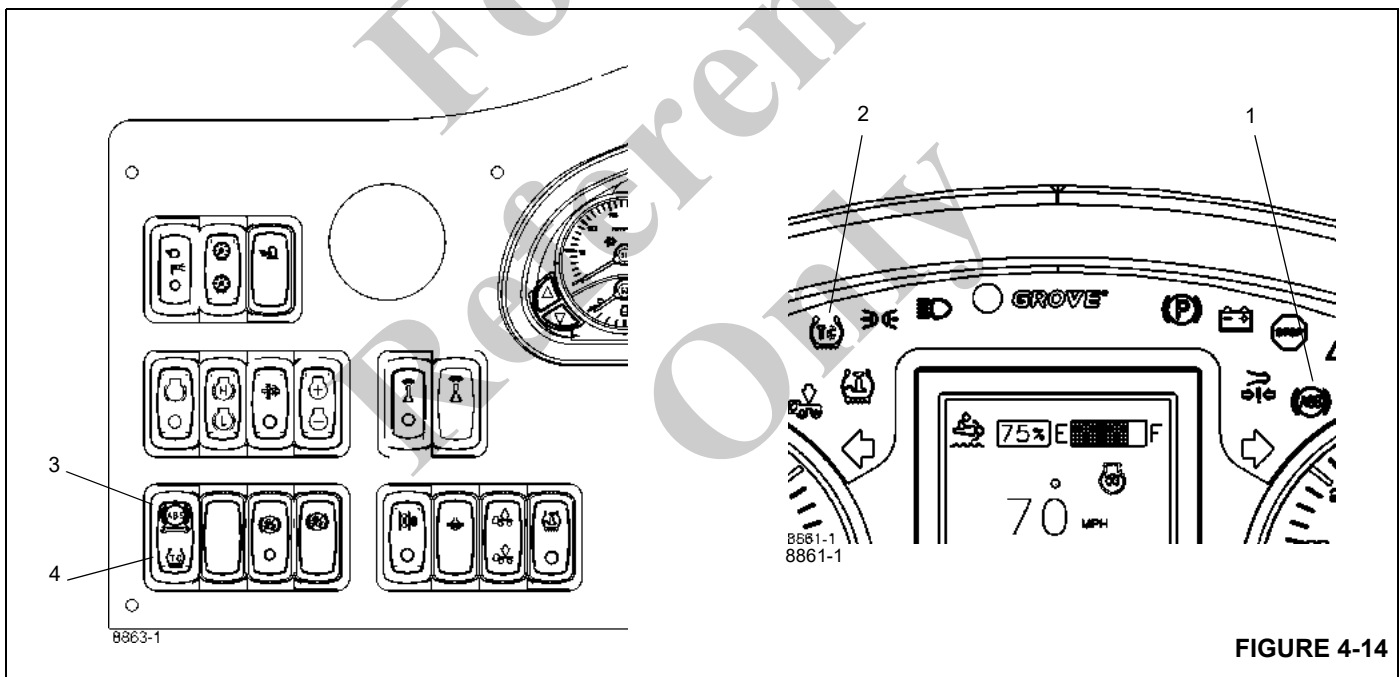

FIGURE 4-14
When ignition power is applied, the ECU will illuminate the ABS indicator lamp (1), (Figure 4-14) for approximately three seconds, after which the lamp will extinguish if no diagnostic trouble codes are detected.
The ABS/Traction Control switch (3), (Figure 4-14) is used to diagnose system problems along with blink codes displayed on the ABS indicator, see the *Service Manual* for more information.
- The ATC off-road switch (4), (Figure 4-14) allows greater wheel spin (more torque) when activated. It is intended for adverse conditions, usually off-highway. The switch turns on ATC off-road when pushed once and off when pushed a second time and whenever the system goes through a power-up cycle.
The ATC Indicator (2), (Figure 4-14) will flash rapidly when ATC is operating.
The ECU will illuminate the Automatic Traction Control (ATC) lamp (2), (Figure 4-14) for approximately 2.5 seconds when ignition power is applied, after which the lamp will extinguish, if no diagnostic trouble codes are detected.
To activate ATC off-road mode, push the bottom of the ABS/Traction Control Switch (4), (Figure 4-14) once. When the ECU is placed in the ATC off-road mode, the ATC indicator lamp will flash slowly at a rate of 1.0 seconds ON, 1.5 seconds OFF to notify the vehicle operator that the off-road mode is active.